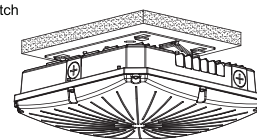

Figure 4
- Lift and Hook-up fixture on the mounting plate (Figure 4).